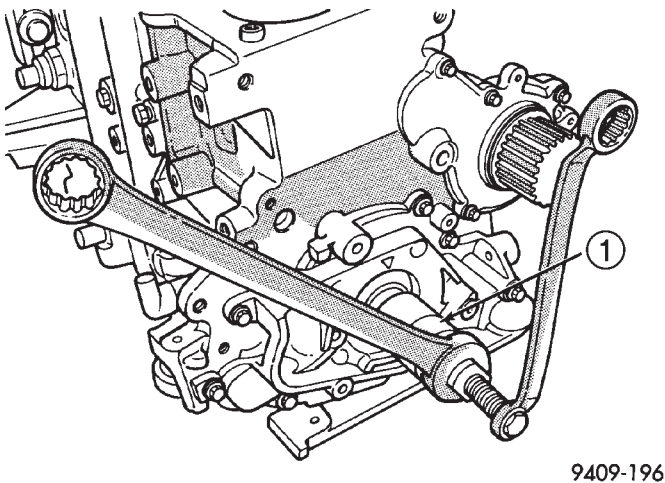

Fig. 86 Front Crankshaft Oil Seal—Removal
(6) Using Special Tool 6771, remove front crankshaft oil seal (Fig. 86). Do not damage the seal contact area on the crankshaft.